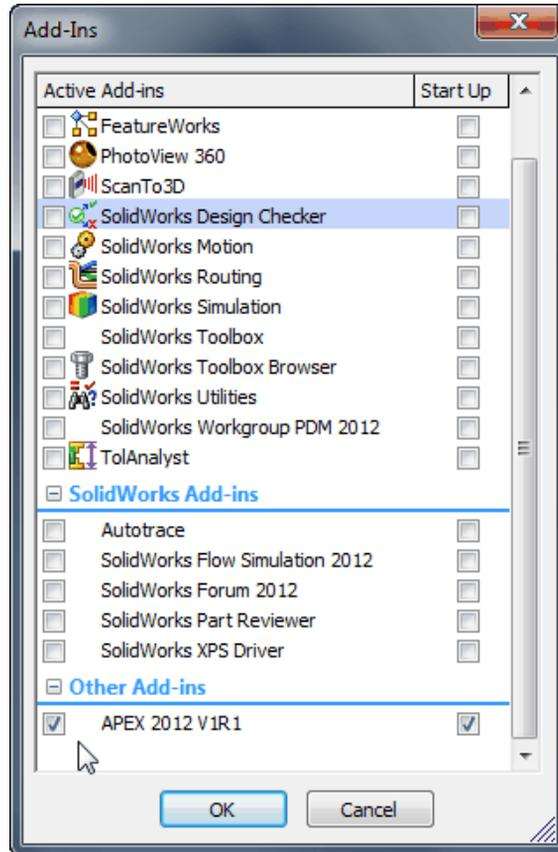

Figure 8 SolidWorks Add-In list, including APEX
- 5 Confirm that APEX is installed as an add-in to SolidWorks by clicking Tools, Add-Ins on the SolidWorks menu bar. See Figure 8.